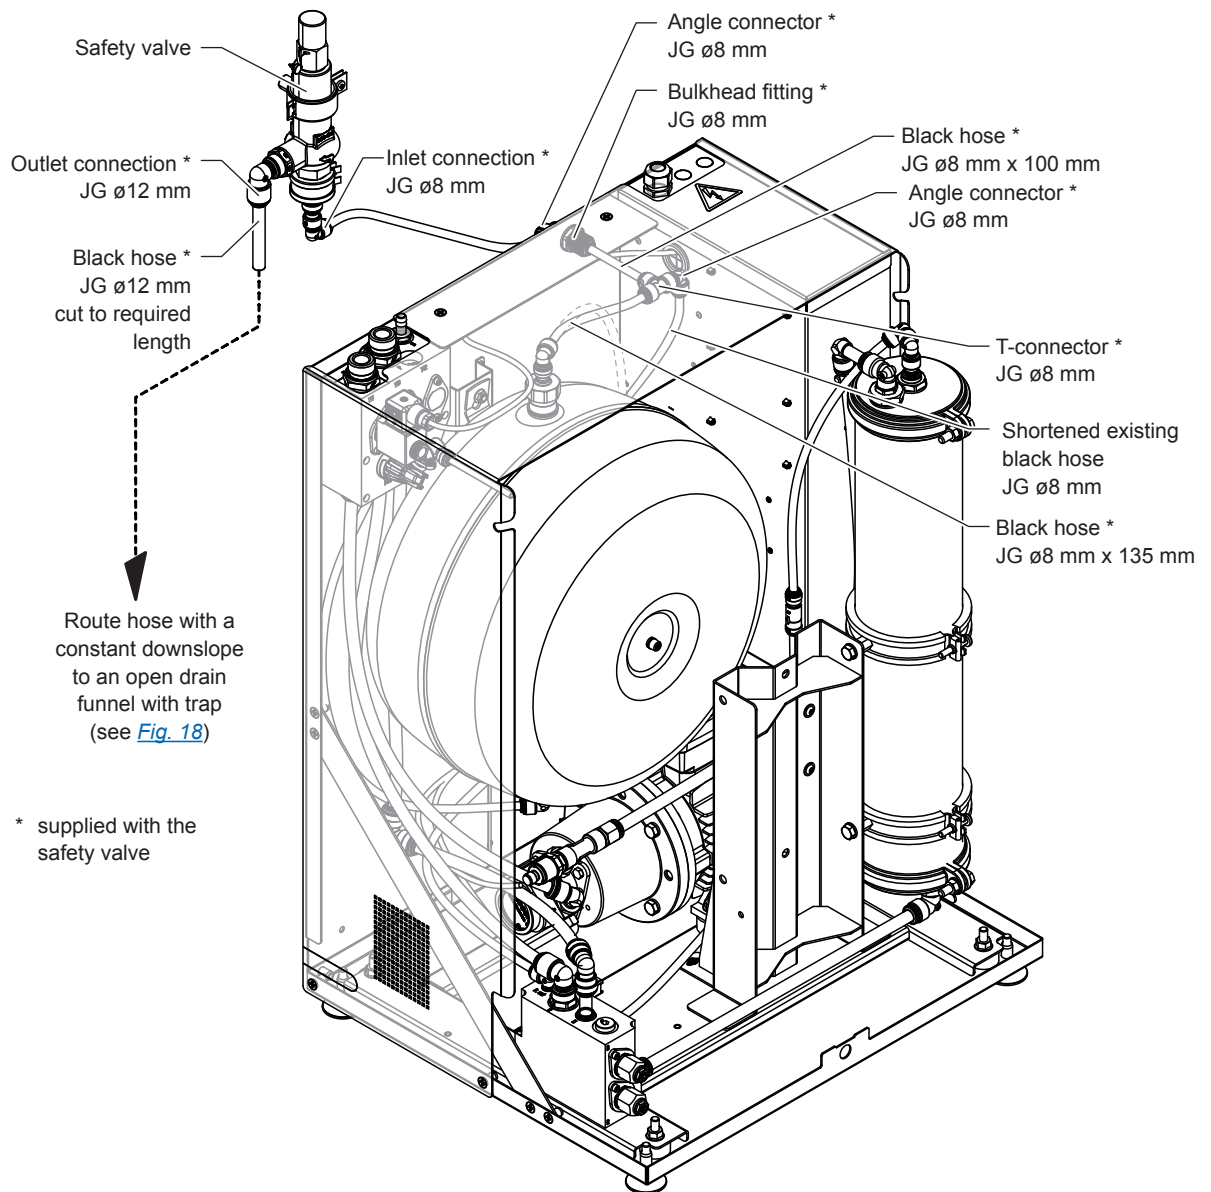

Fig. 27: Connecting the pressure tank safety valve to the Condair RO-E(+) 40/100 pure water system (figure shows RO-E 100)
4. Connect the $\varnothing 8$ mm JG T-connector with installed angle connector with the hoses shown in Fig. 27.